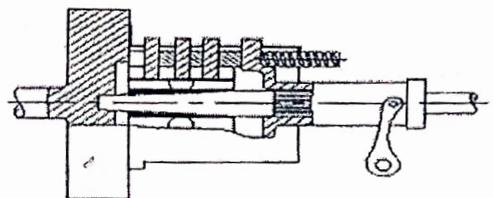

Figure 3
10. Identify the type of clutch in figure 3 below;